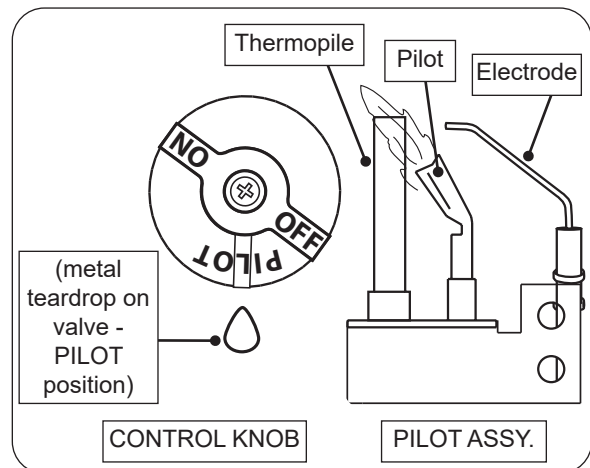

Fig. 38-1 Pilot lighting
3. Locate the pilot assembly on the side or rear of the burner pan (see Fig. 38-1).
4. Turn the control knob counterclockwise  to **PILOT**. Push the knob **firmly and fully** in and hold. Push the piezo igniter button several times until the pilot lights. Continue to hold the knob in for about one (1) minute after the pilot is lit. Release the knob and it will pop back out. The pilot will remain lit. See Fig. 38-1. If it goes out, repeat steps 2-4.